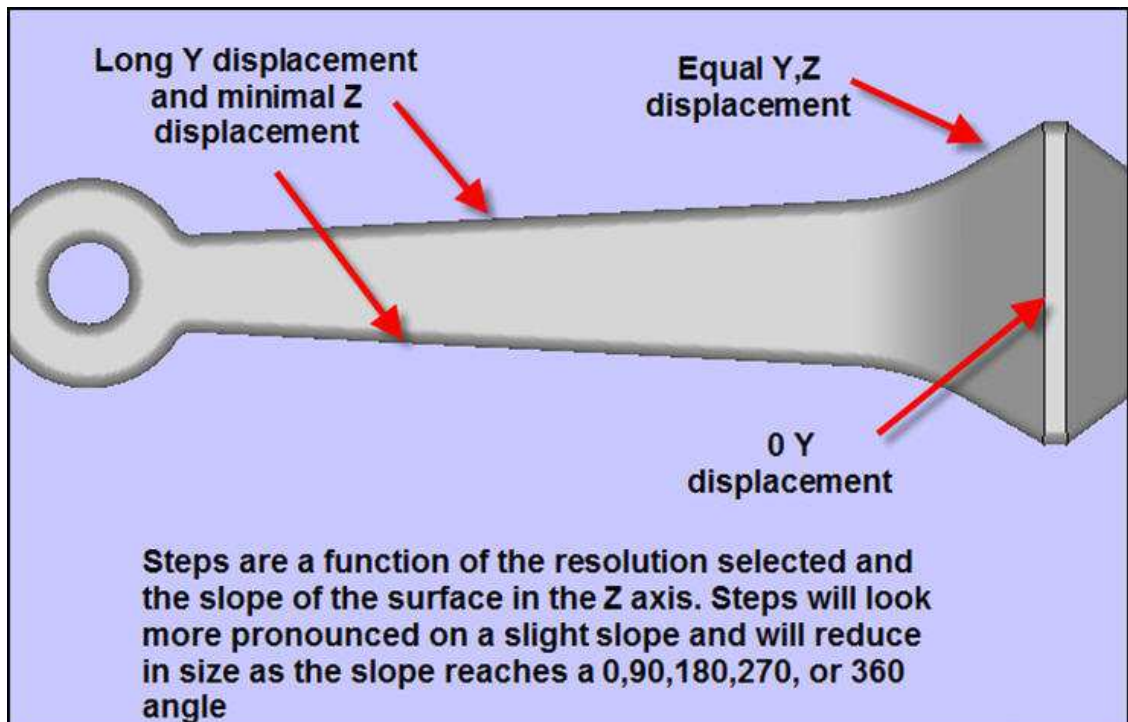

Figure 3: Model Stair stepping
- Small features might require thin slices. Allow at least six slices to build a small feature See **Figure 3: Model Stair stepping.**